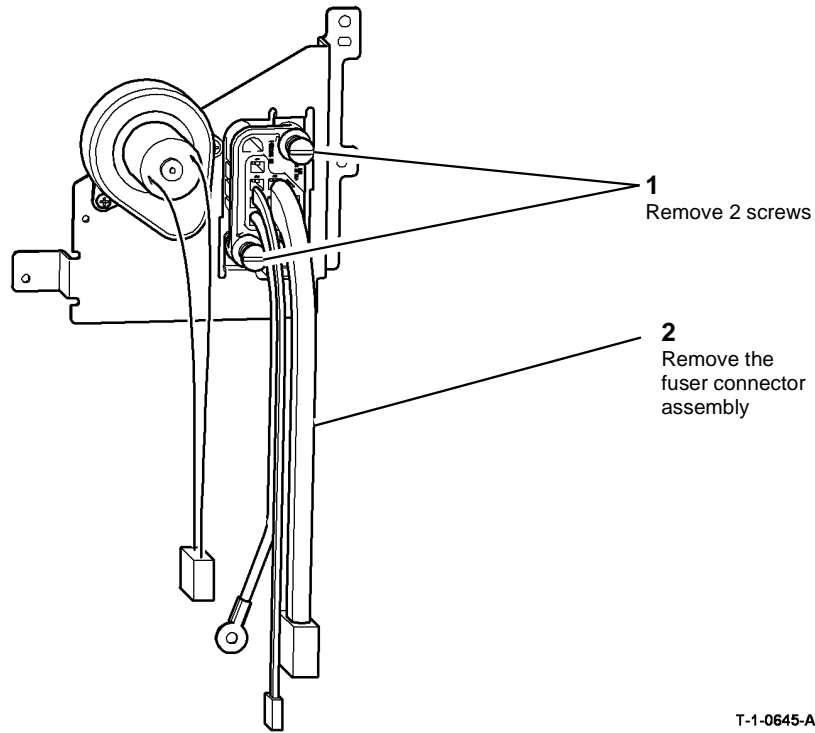

Figure 3 Fuser web motor assembly
- Remove the fuser connector assembly from the fuser web motor assembly, Figure 3.